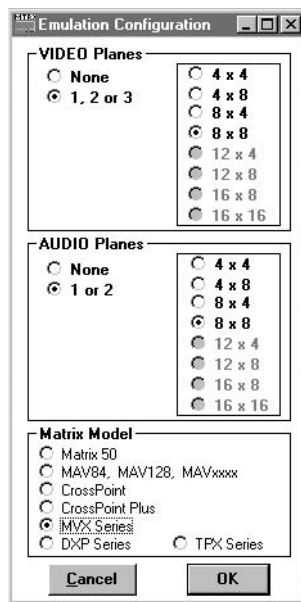

Figure 4-17 — Emulation mode configuration
5. Select **1, 2, or 3** as the number of video boards, **1 or 2** as the number of audio boards, and **MX Series** as the matrix model for which you are preparing a configuration; and click **OK** (figure 4-17).